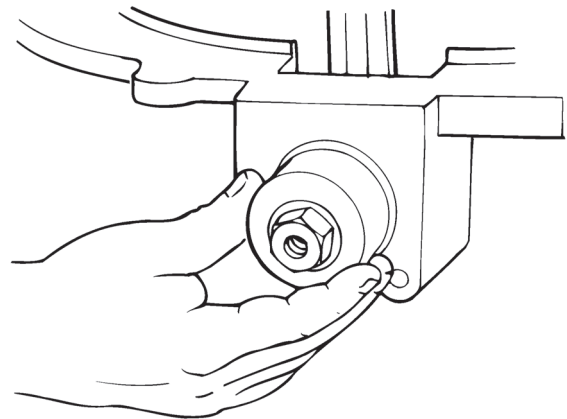

Figure 6.20
8. Turn the shift cylinder and piston assembly to the right until it bottoms in the differential casting bore. Figure 6.20.